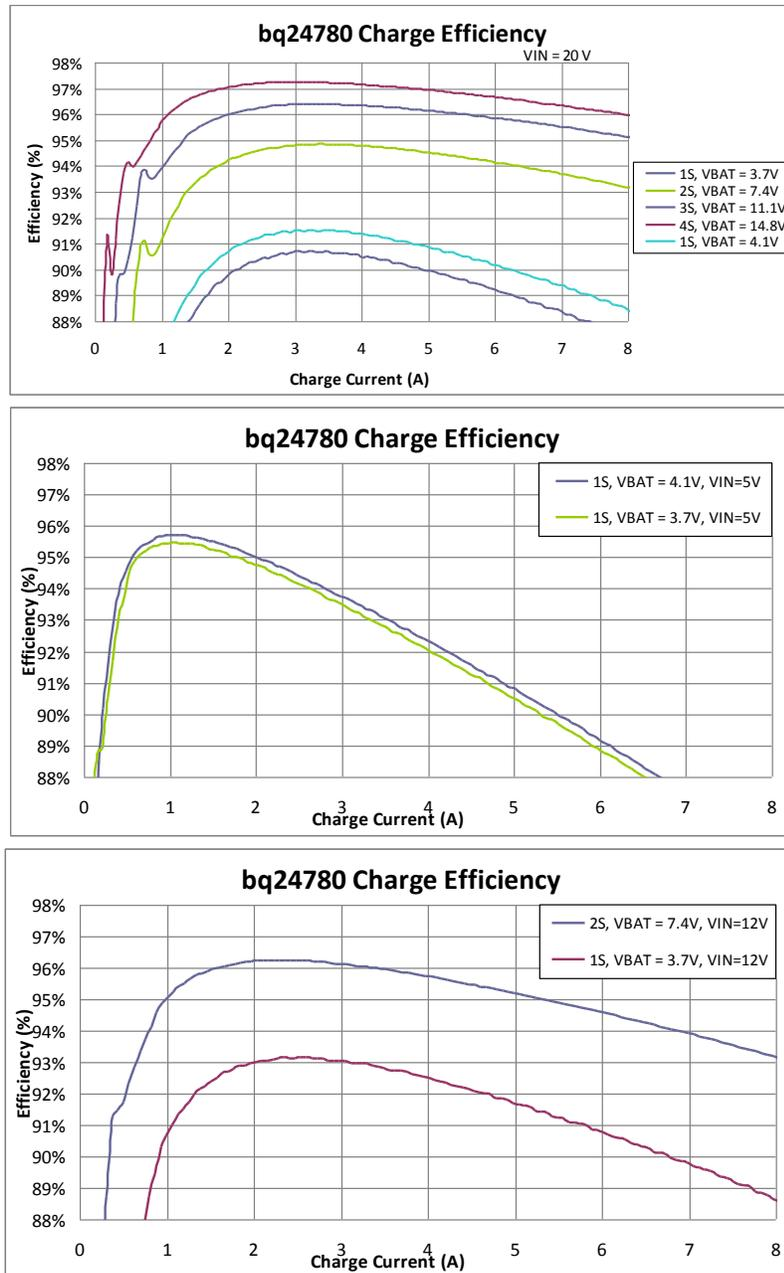

Figure 3. TIDA-00657 Charging Efficiency
- Figure 3 shows the charging efficiency across the charge current range with the bq24780S at 25°C.